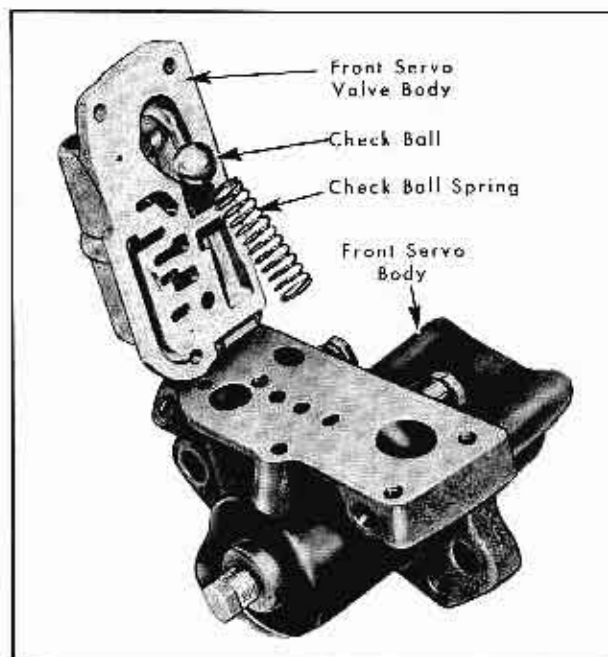

Fig. 14-60 Check Ball and Spring Location
4. Install check ball spring and ball in servo body and carefully assemble front servo valve body to servo body and install three attaching screws, Fig. 14-60.